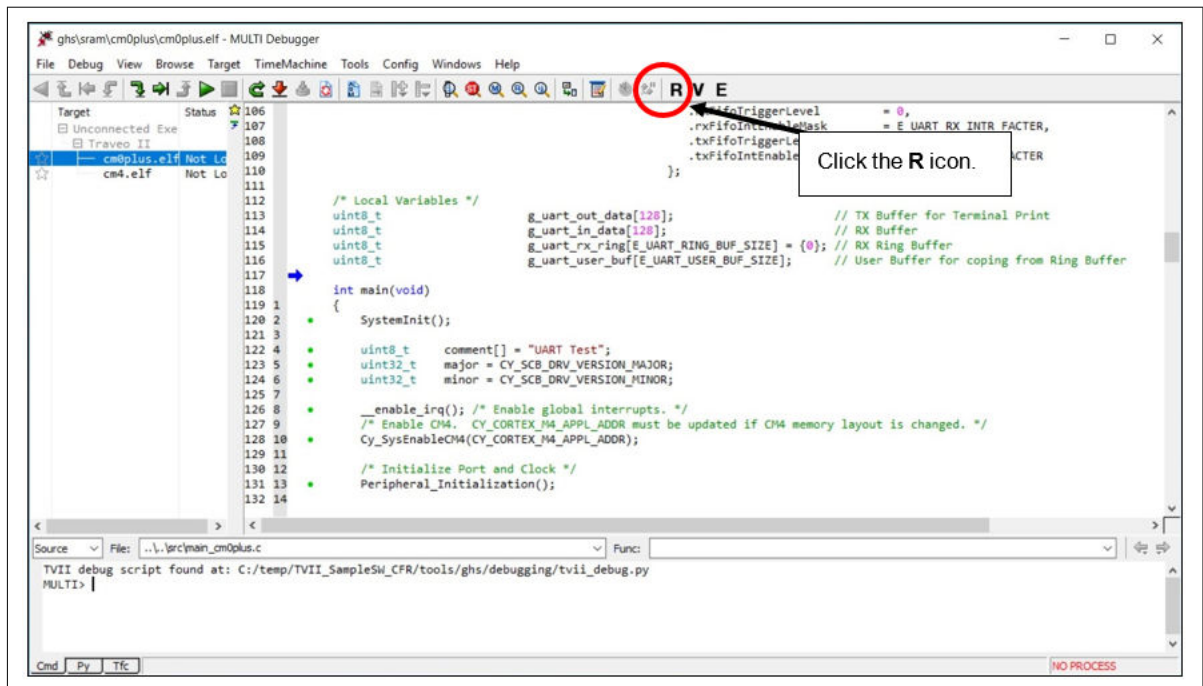

Figure 13 Load to RAM
- To load the program to the RAM, click the **R** icon as shown in Figure 13. Loading of the program to the RAM begins.